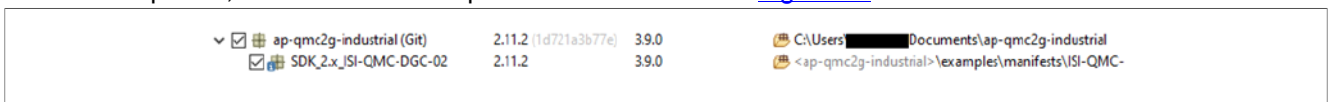

Figure 39. Installed SDKs tab
4. Once imported, the *Installed SDKs* panel looks as shown in Figure 39